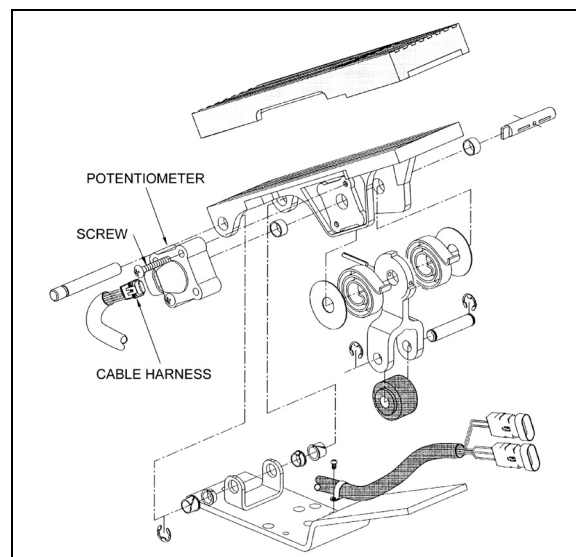

FIGURE 14: ELECTRONIC FOOT PEDAL ASSEMBLY 03035
3. Discard potentiometer (Fig. 14).
4. Position new potentiometer. Press potentiometer onto the potentiometer shaft, matching cutouts in shaft to drive tangs of potentiometer. Apply hand pressure until potentiometer has bottomed out in housing. Reinstall screws (Fig. 14) and tighten just enough to secure potentiometer lightly. Tighten screws to 10 - 20 lbf-in (1.5 - .2 Nm).